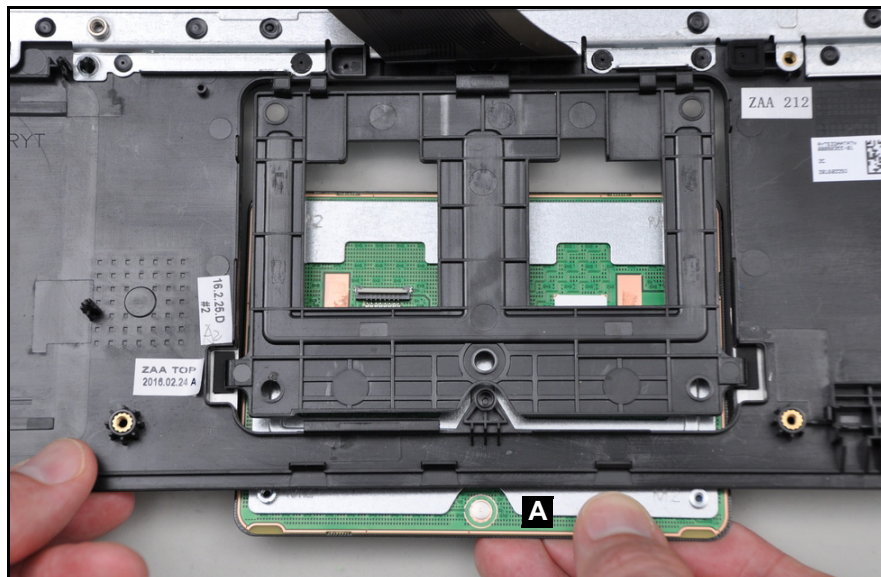

Figure 3-89. Replacing the Touchpad Module
1. Carefully open the top assembly with one hand, and place the touchpad module (A) to its compartment on the top assembly (Figure 3-89).